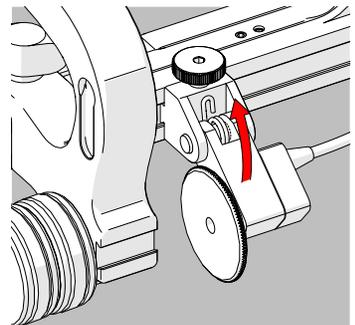

Fig. 41 - Place on scan surface
3. Spring tension maintains constant encoder contact with the surface (Fig. 41).